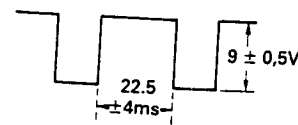

Figure 41.
2. Monitoring IC701 pin ⑥ with an oscilloscope (internal trigger), check that the requirements given in Figure 41 are met.